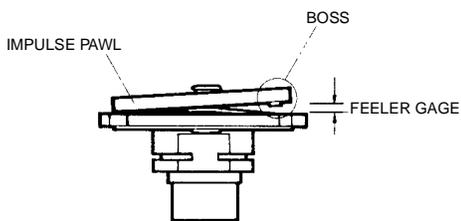

Figure 3.3.4D
11. Maximum clearance for pawls with one (1) boss is 0.150 inch. Maximum clearance for pawls with two bosses is 0.150 inch for left- hand rotation couplings and 0.140 inch for right-hand rotation impulse couplings. If the feeler gauge can pass between the full width of the boss and the pawl plate, replace the impulse coupling. See Figure 3.3.4D. For coupling rotation, see magneto data plate.